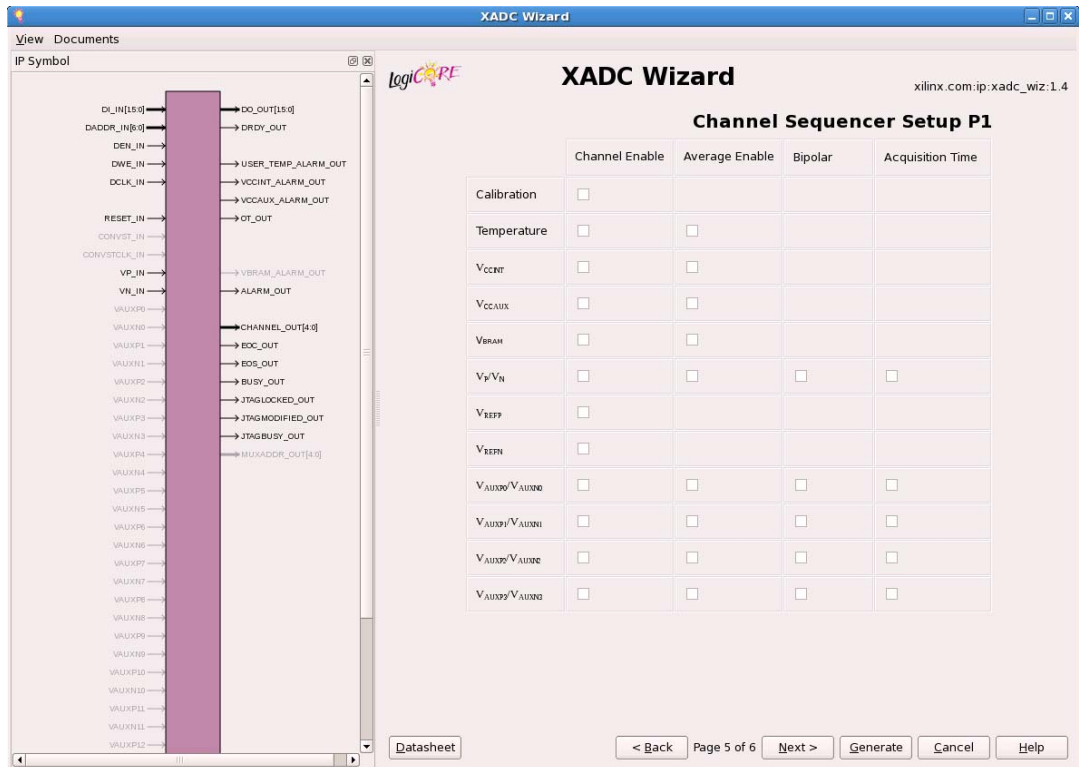
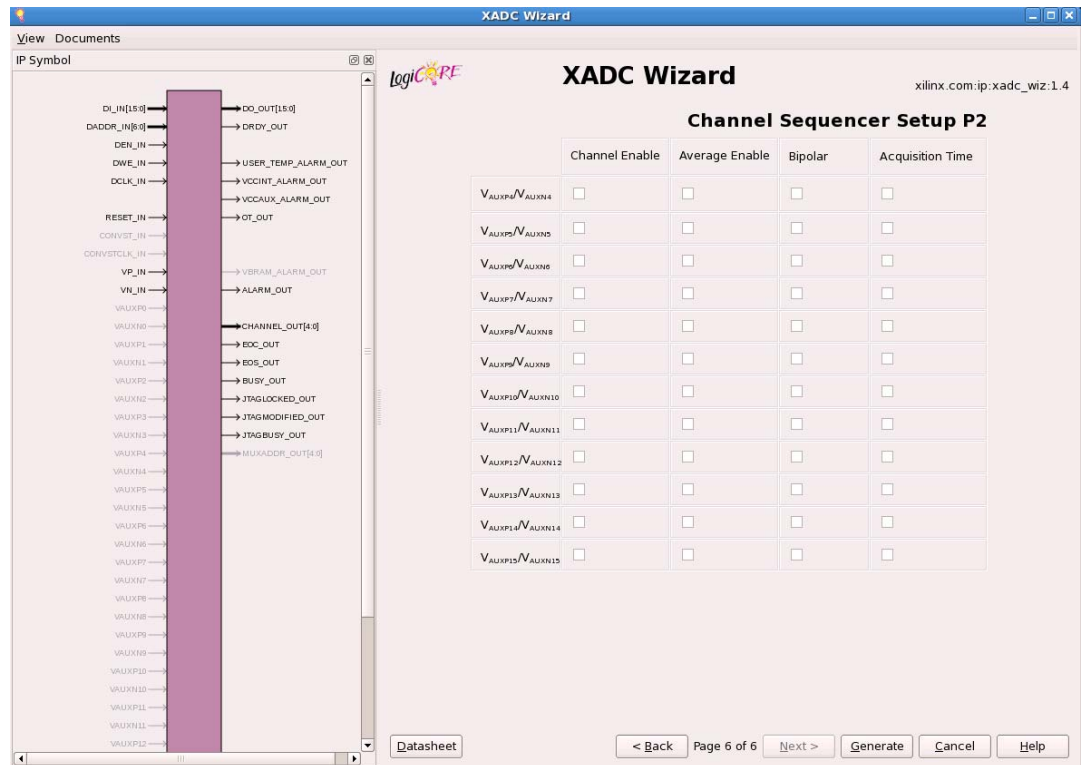

Figure 3-8: Channel Sequencer Setup P1 - Page 5
Figure 3-9: Channel Sequencer Setup P2 - Page 6
- **Channel Sequencer:** Choosing this mode, allows you to select any number of channels to monitor. The channels to be used for this mode can be selected on Page 5 (Figure 3-8) and Page 6 (Figure 3-9) of the Wizard.
Channel Sequencer Setup P1 (Figure 3-8) and Setup P2 (Figure 3-9) screens of the Wizard are used to configure the XADC sequence registers when the XADC is configured in Channel Sequencer, Simultaneous sampling or Independent ADC mode. All the possible channels that can be included in the sequence are listed in the table spread across screens 5 and 6 (Figure 3-8 and Figure 3-9) of the Wizard: